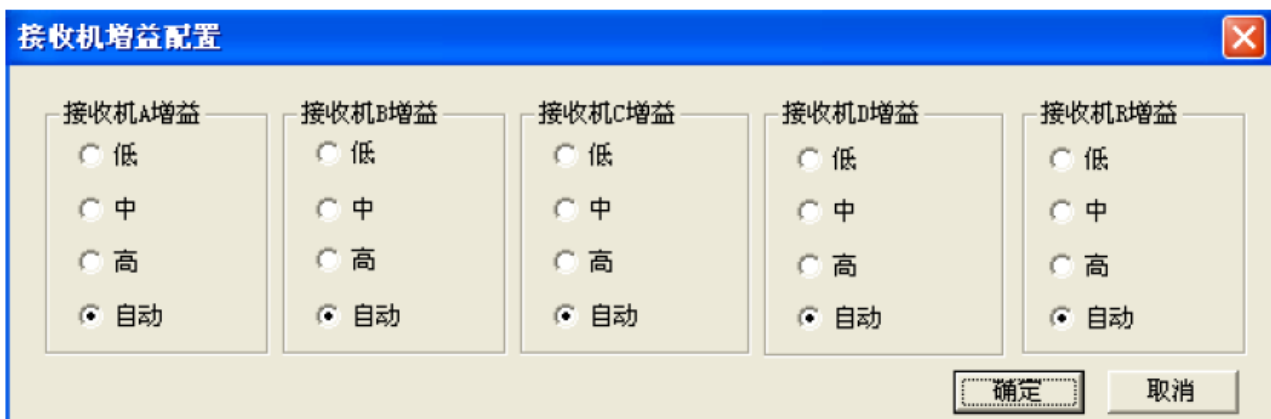

Fig. 4.9 [Receiver gain configuration] Dialog Box
7) **Receiver gain control:** click [Configuration] > [Receiver gain control] (Fig. 4.8). The dialog box shown in Fig. 4.9 will appear.